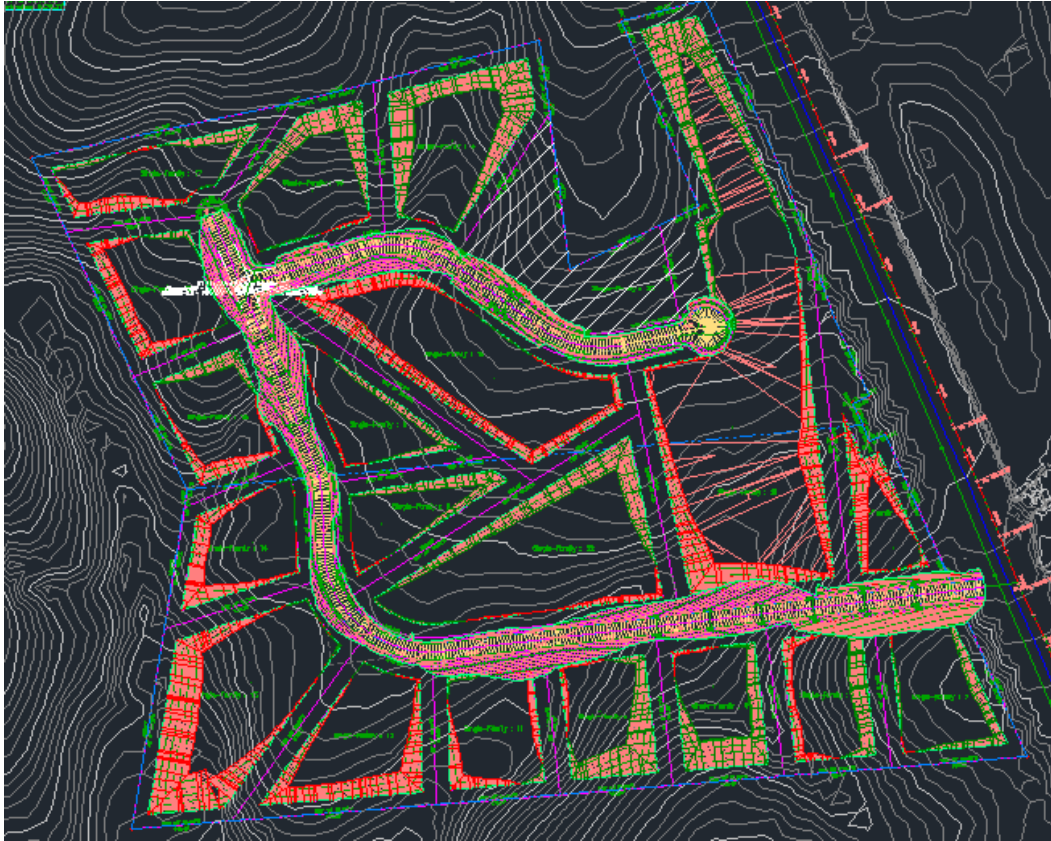

Figure 2.23 – Example of a design using our Roadway Development toolbelt
- The Roadway Modeling toolbelt extends the design capabilities into transportation and civil infrastructure, with tools available for creating and managing subassemblies, assemblies, and corridors and designing intersections and cul-de-sacs. This toolbelt emphasizes the importance of dynamic links between foundational and roadway model objects, facilitating a seamless design progression (refer to *Figure 2.23*).